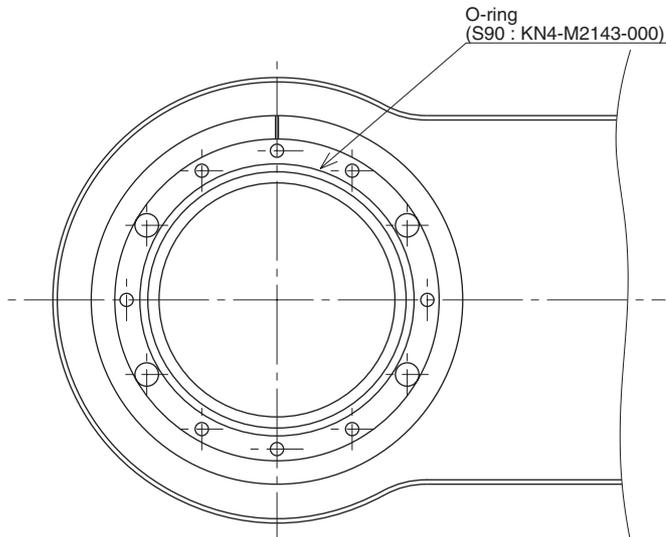

Fig. 5-44
An O-ring is fitted to the upper surface of the X-axis, so be careful not to let it drop into the peripheral unit. (See Fig. 5-44.)
- 13) Fit a new O-ring coated with harmonic grease into the O-ring groove on the X-axis arm. (See Fig. 5-44.)